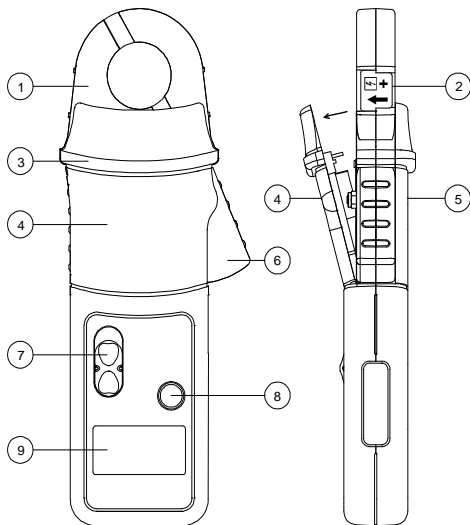

FIG 1
- Do not hold the clamp meter anywhere beyond the tactile barrier see FIG 1.
When the Low Battery symbol is illuminated in the display the minimum battery voltage has been reached. Refer to Fig 1 and use the following procedure to replace the battery.
Loosen the captive screw which secures the battery cover. Lift the cover through 30° and pull it clear of the body as shown in Fig 1. Replace the battery and re-fit the battery cover and fasten the screw .